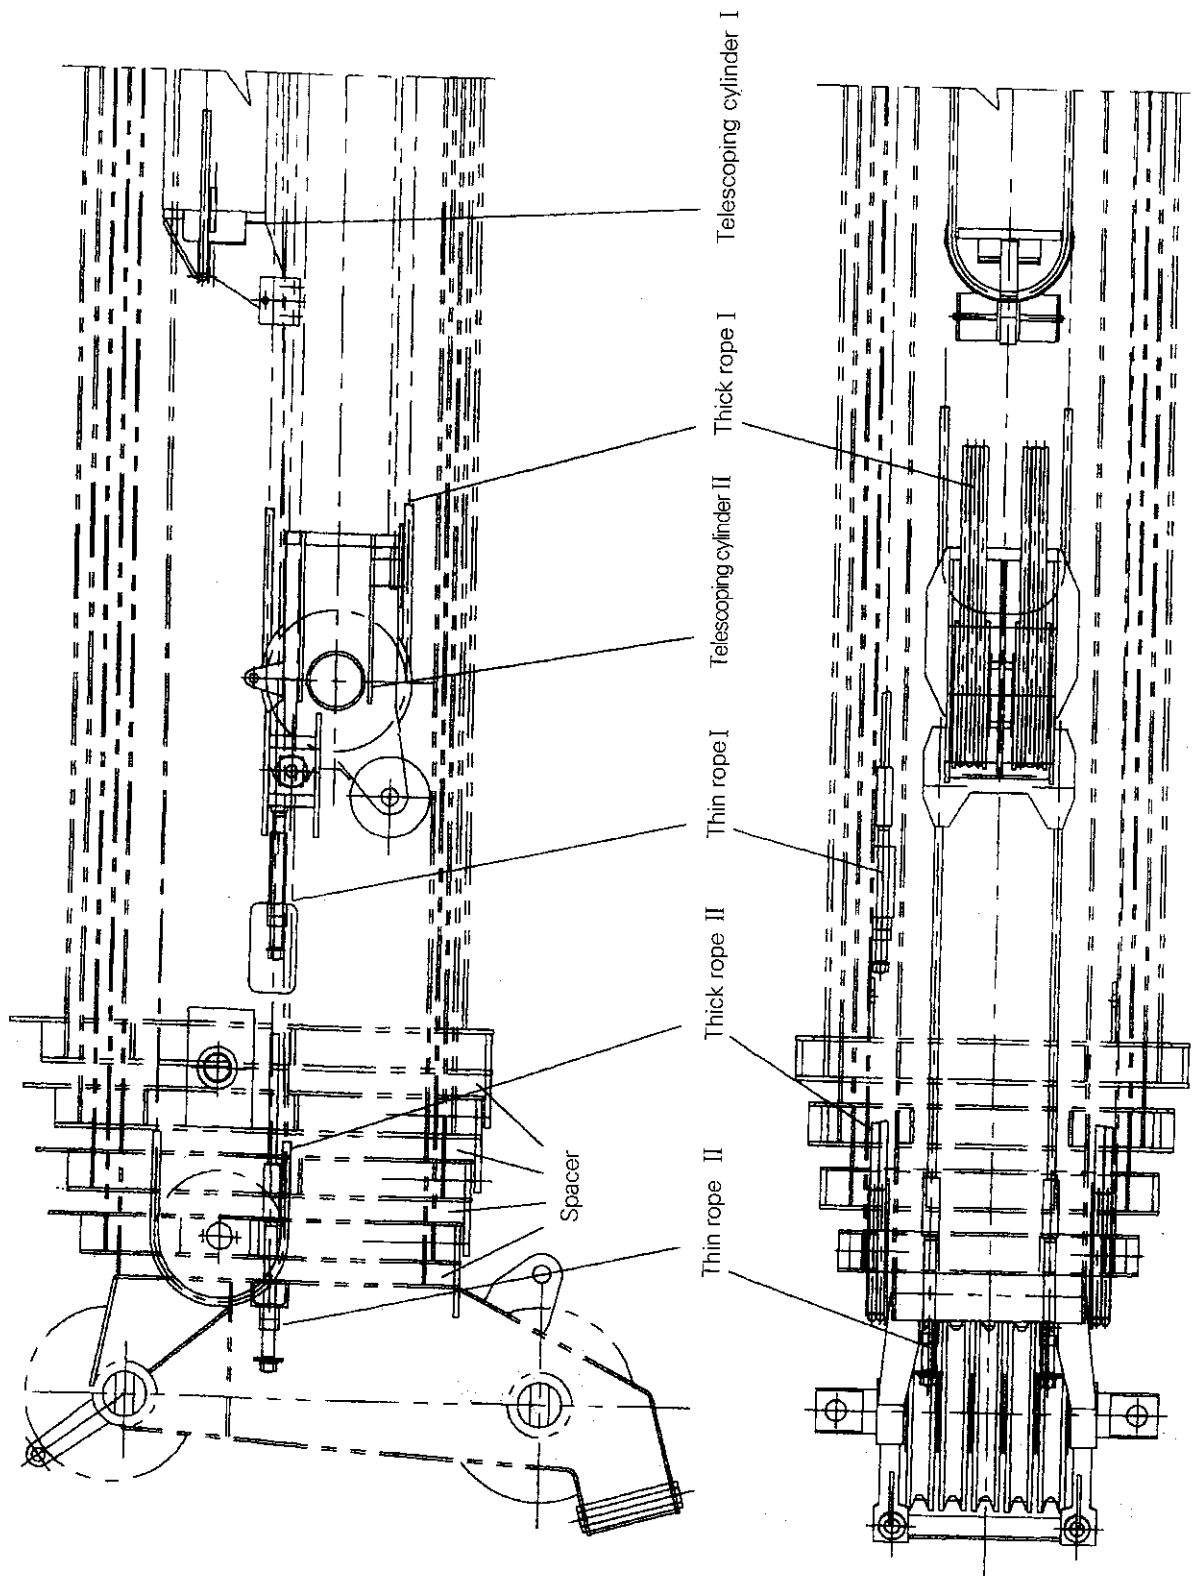

Fig. 1-1
2. Working Principle (see Fig.1-1)